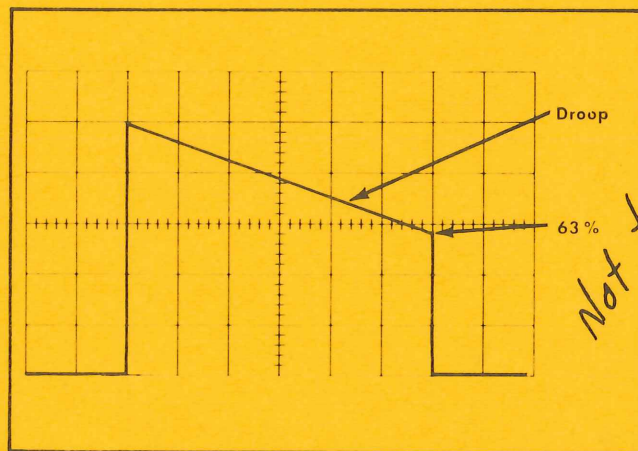

Fig. 2-7. Typical waveform showing limited low-frequency response.
**Low-Frequency Response.** Limited low-frequency response is shown by a trailing-edge droop in the flat-top portion of the square wave (see Fig. 2-7). Apply a symmetrical square-wave of a repetition rate which is not affected by the low-frequency limit. Note the amplitude and then slowly reduce the square-wave frequency until the trailing corner of the square wave falls to 63% of the amplitude at the leading edge. The low-frequency response (30% down) of